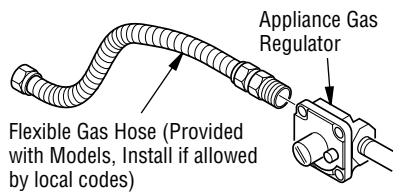

Figure 10 - Attaching Flexible Gas Hose to Appliance Gas Regulator
1. Apply pipe joint sealant lightly to male threads of the 3/8 NPT side of gas fitting elbow (provided) and connect to inlet side of gas control. Remove gas fitting from flexible gas hose (provided) before connecting to elbow (see Figure 10).